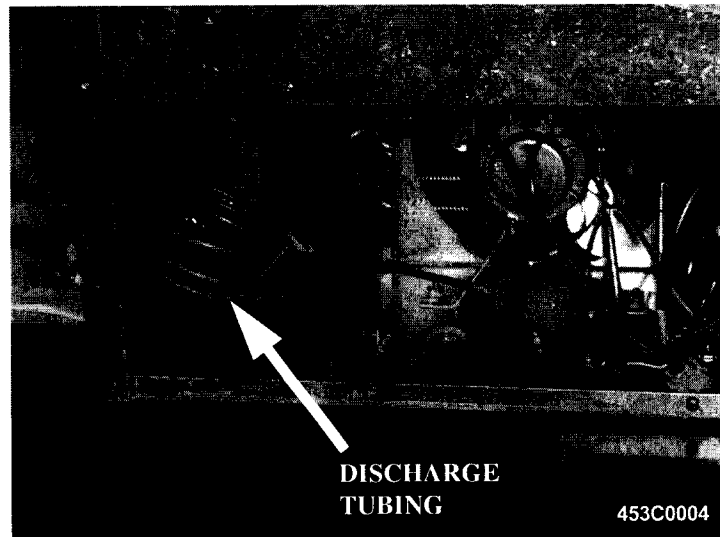
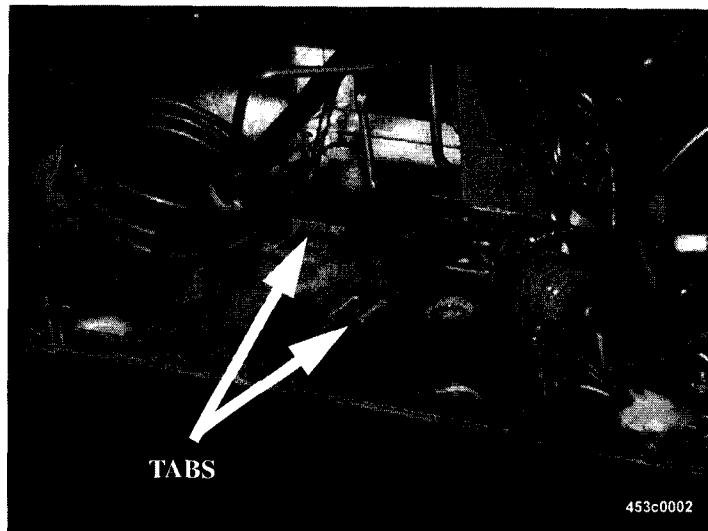

Figure 3
Figure 4
4. Lift the discharge tube coil (*be careful not to kink or flatten the tubing*) high enough to remove the condensate pan (4644029) from the refrigeration module (see figure 3). Remove the condensate pan (4644029) from the refrigeration module and discard the condensate pan (see figure 4).